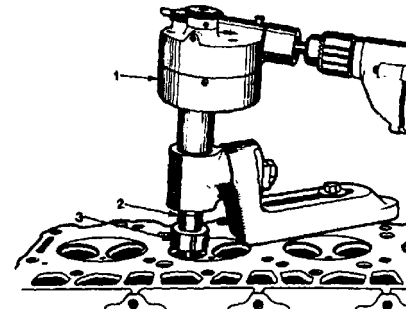

Figure 39. Machining Valve Seat Insert Counterbore
17. Use counterbore tool such as SE-1797 (Figure 39) to clean up (or machine to desired oversize) the valve seat insert counterbores in cylinder head. Follow equipment manufacturer's instructions.